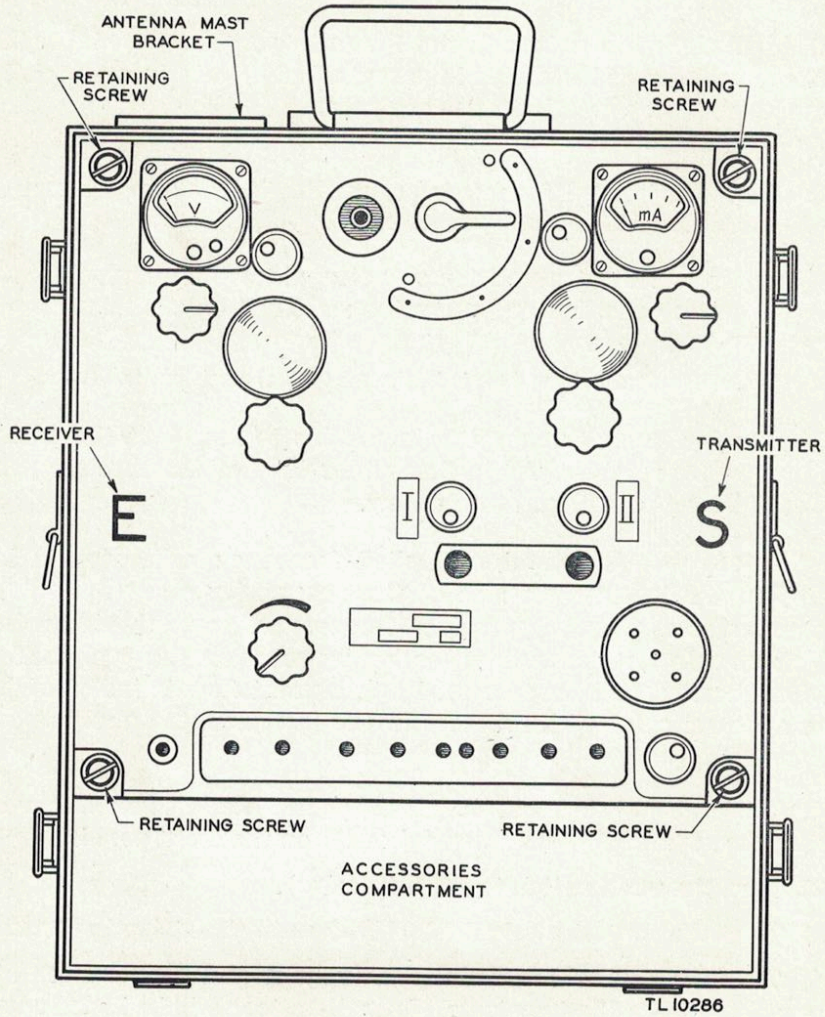
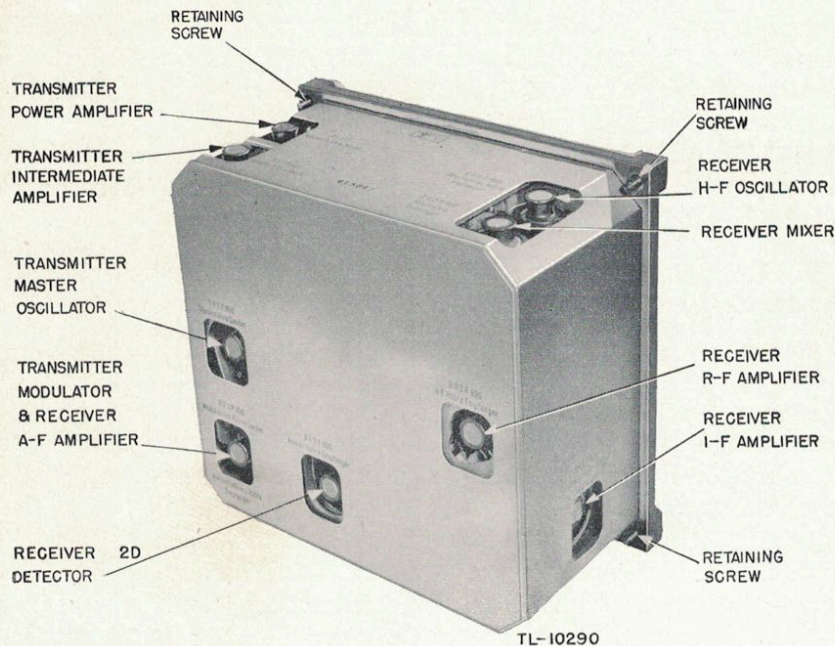

Figure 5. German radio set Torn. Fu. d2., front view.
Figure 6. German radio set **Torn. Fu. d2.**, removed from case, rear view.
c. Replace the tubes in order, starting with the antenna and progressing toward the master oscillator in the transmitter. In the receiver, start with the a-f amplifier and work to the r-f amplifier. To change the tubes, it is necessary to remove the set from its case. Do this by loosening the four retaining screws on the front panel of the set (fig. 5). Each retaining screw is surrounded by a red ring. Then pull the set from the case. Figure 6 is a rear view of the set with the case removed, showing the position and function of all the tubes.